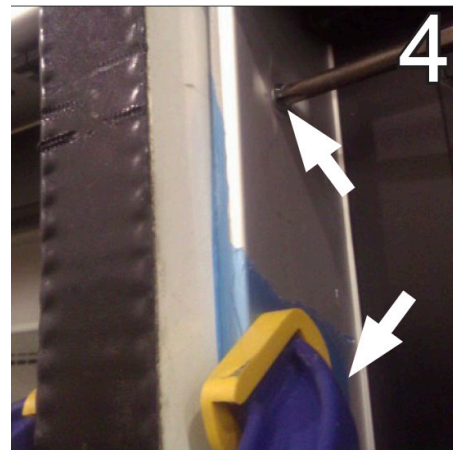

Fig. 70 Clamp to close gap between partition and frame
4. Use a clamp to close the gap between the frame end and the foam partition, which compresses the sealant applied earlier (Fig. 70).